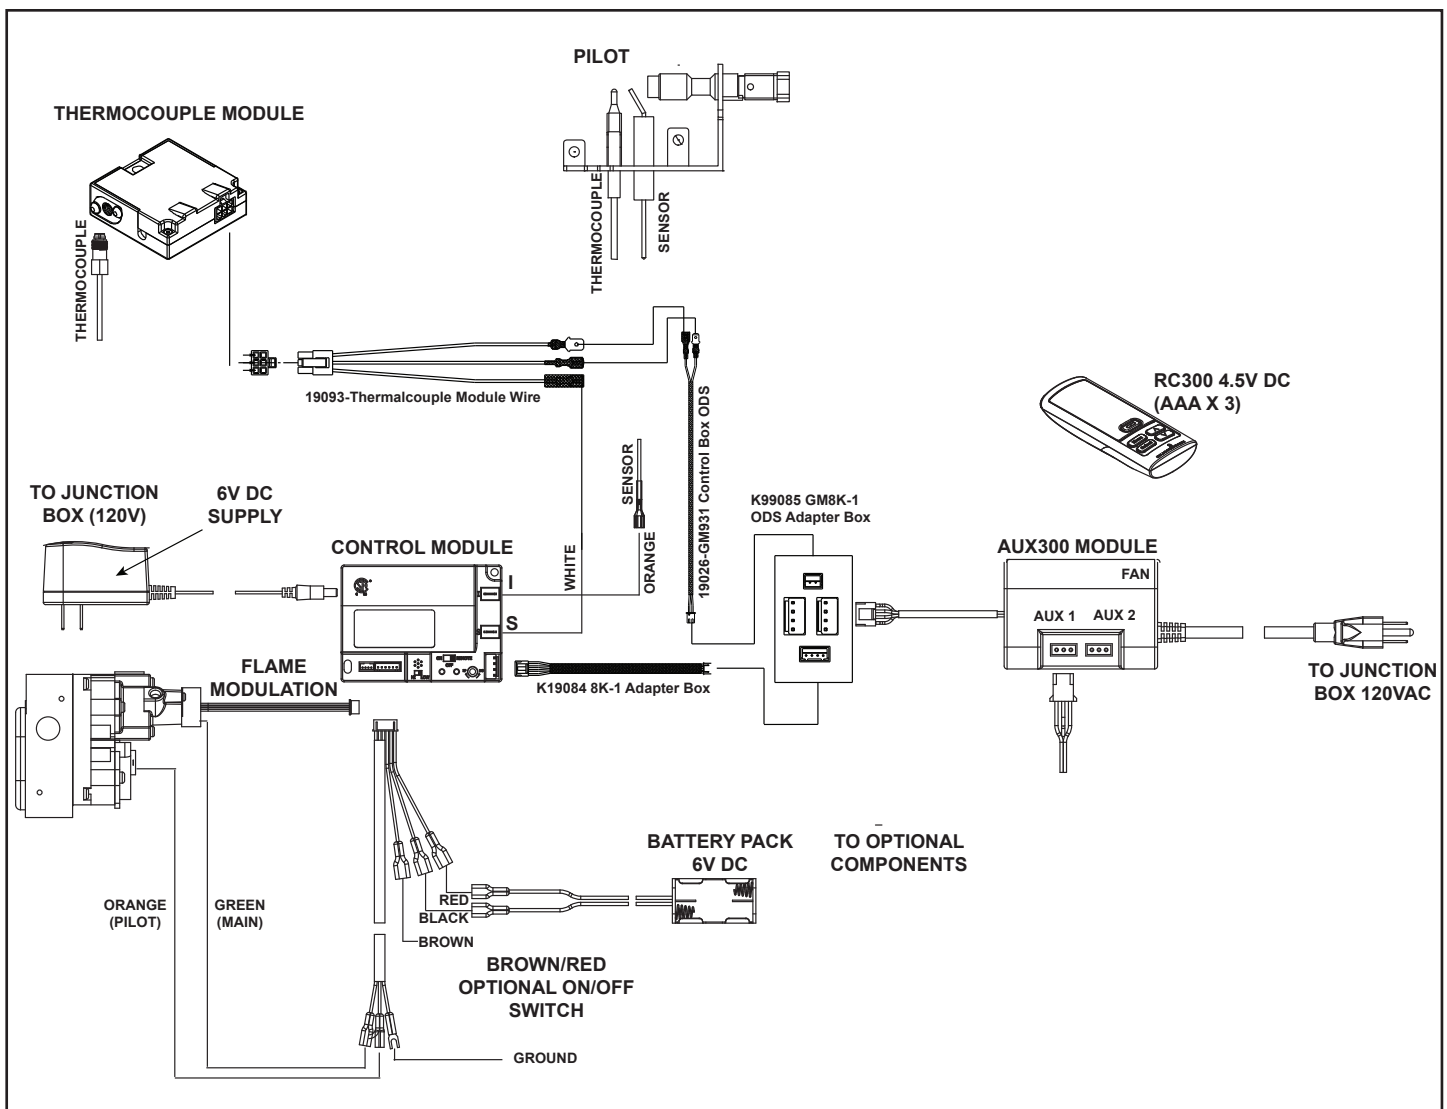

Figure 6.3 IntelliFire™ Plus ODS Wiring Diagram
- Refer to Figure 6.3 or 6.4, IFP ODS Wiring Diagram.